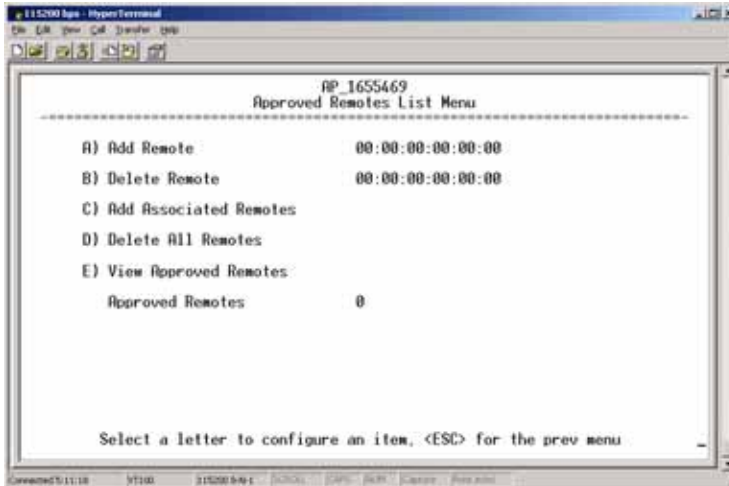

Figure 3-64. Approved Remotes Submenu
- **Approved Remotes (AP only)**—Launches a submenu where you can view, add, or delete approved Remotes. (See Figure 3-64.)